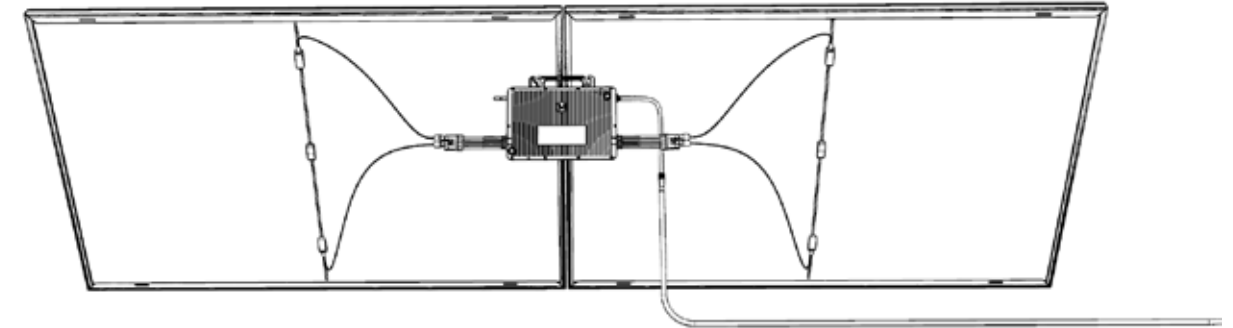

FIGURE 6-3
- ① Parallelly connect the positive and negative terminals of two Suncake products to the micro-inverter DC ports separately, as shown in Figure 6-3.
- ② Connect the micro-inverter AC output directly to the household socket and then the installation is complete